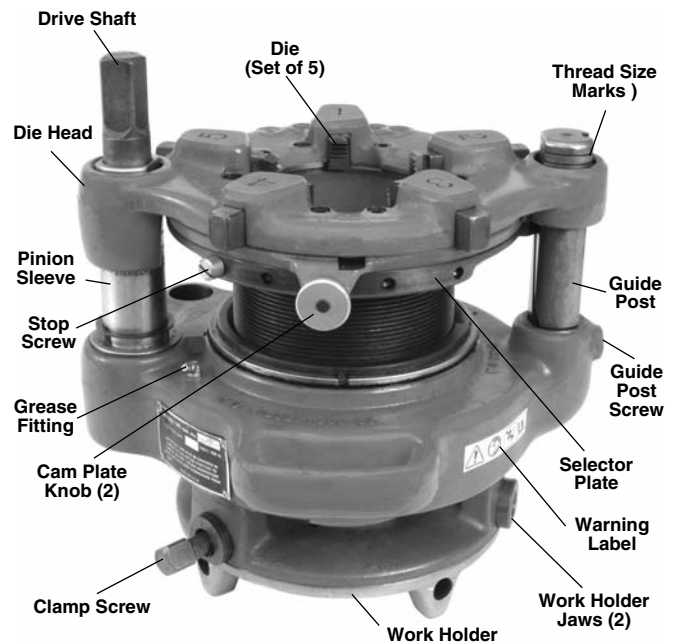

Figure 1 – Model 141 Receding Geared Threader
- Presence and readability of warning label (see Figures 1 and 2).